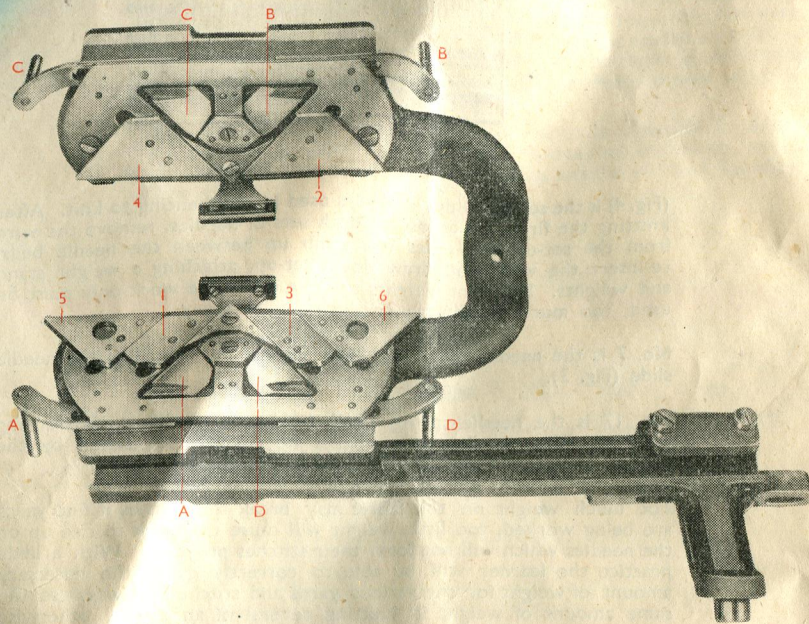

Fig. 7
The most important parts of the machine are the Cambox (A) [see illustration Fig. 7] which comprises the cam plates which hold the cams and other mechanism for operating the needles. The Carriage Bars (B) are for the cambox to slide in. The two Needle Beds (C) contain grooves for the needles to work in. At the tops of the needle beds will be found the Tricks, or loop formers, over which the stitches are drawn. The yarn feeders and Yarn Guide Carriers (D) feed the yarn to the needles. (E) are the Carrier Bars on which the yarn guide carriers slide. The Rack Handle (F) is for racking the back needle bed, moving it from side to side to obtain Racked Patterns etc., about which more will be said later. Machines are made to rack over three needles. The Lever (G) is for dropping the front needle bed to facilitate picking on stitches, etc. The six Tension Indicators and Thumb Screws, (H) are for controlling the stitch cams to adjust the length of stitch. The Needle Slides (I) hold the needles in their grooves. These are drawn out if it is necessary to replace a damaged needle, but care should be taken to push them back to their original position. The Yarn Stand (J) is to guide the yarn in correct form to the machine. There are various styles of yarn stands in use. The one supplied is as illustrated on front cover.
No. 28b shows the needle at its highest position when at the top of cam E (Fig. 7).
The Cams are very important parts which operate the needles. We give a description of these parts and an illustration, (Fig. 7).